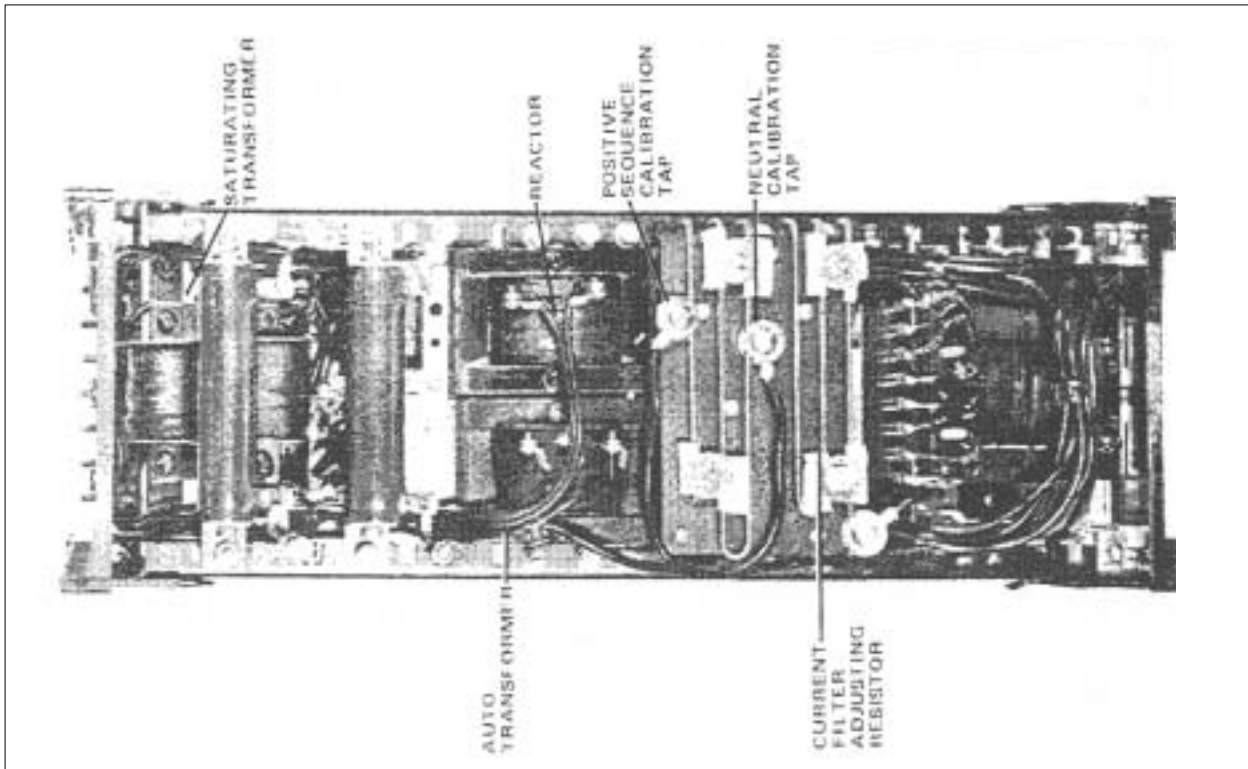

Figure 1. Type IRQ Relay without Case (Rear View)
The type IRQ relay consists of a directional cylinder unit (D) operating on negative sequence quantities, negative-sequence current and voltage filters, an auxiliary switch (CS-1 or TR-1), a time-overcurrent unit (CO), an instantaneous overcurrent unit (I), and two indicating contactor switches (ICS/I) and (ICS/T). The principle component parts of the relay and their location are shown in Figures 1 and 2.